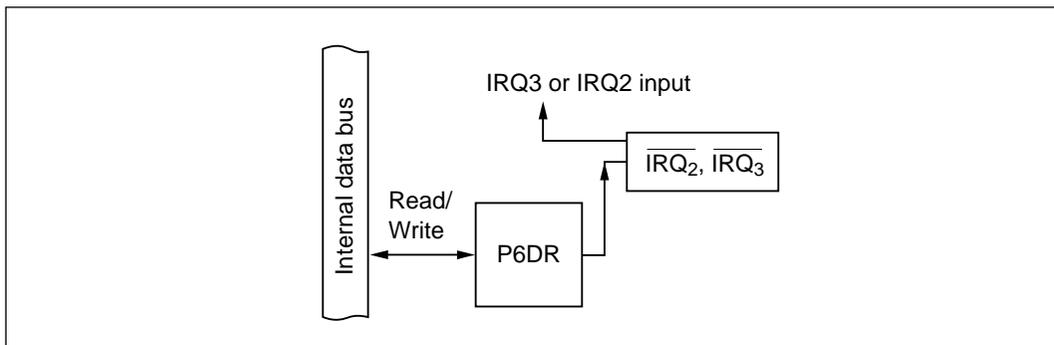

Figure 10-38 $\overline{\text{IRQ}}_3$ or $\overline{\text{IRQ}}_2$ Input Combined with General-Purpose Output (Modes 1 to 7)
(3) $\overline{\text{IRQ}}_3$ or $\overline{\text{IRQ}}_2$ Input Combined with General-Purpose Output (P6_1 , P6_0 : modes 1 to 7): Figure 10-38 shows a block diagram illustrating the $\overline{\text{IRQ}}_3$ and $\overline{\text{IRQ}}_2$ input function of P6_1 and P6_0 when combined with general-purpose output. Table 10-30 indicates register read/write data. When P6_1 and P6_0 are used for $\overline{\text{IRQ}}_3$ and $\overline{\text{IRQ}}_2$ input they can also function as general-purpose output ports. If the general-purpose output function is used, however, output of a falling edge will cause an interrupt.